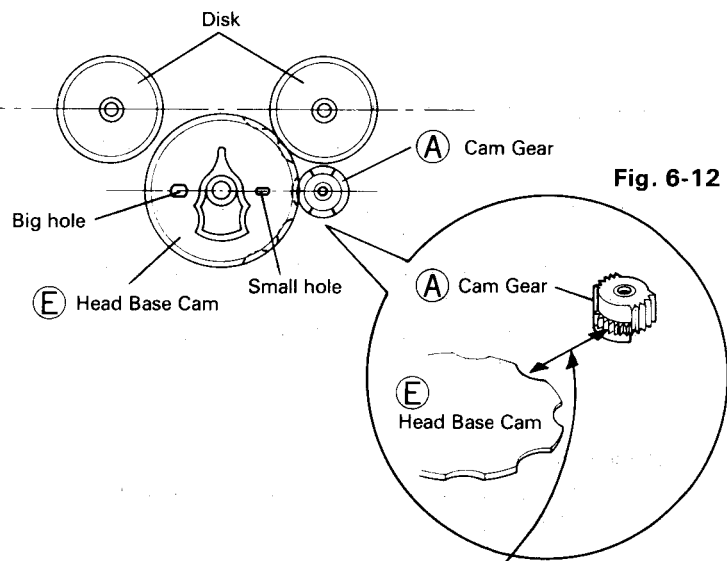

Fig. 6-12
- c) When putting back the head base cam (**E**), pay careful attention to positioning it so that big and small concaves are paralleled with the disk. (Fig. 6-12)